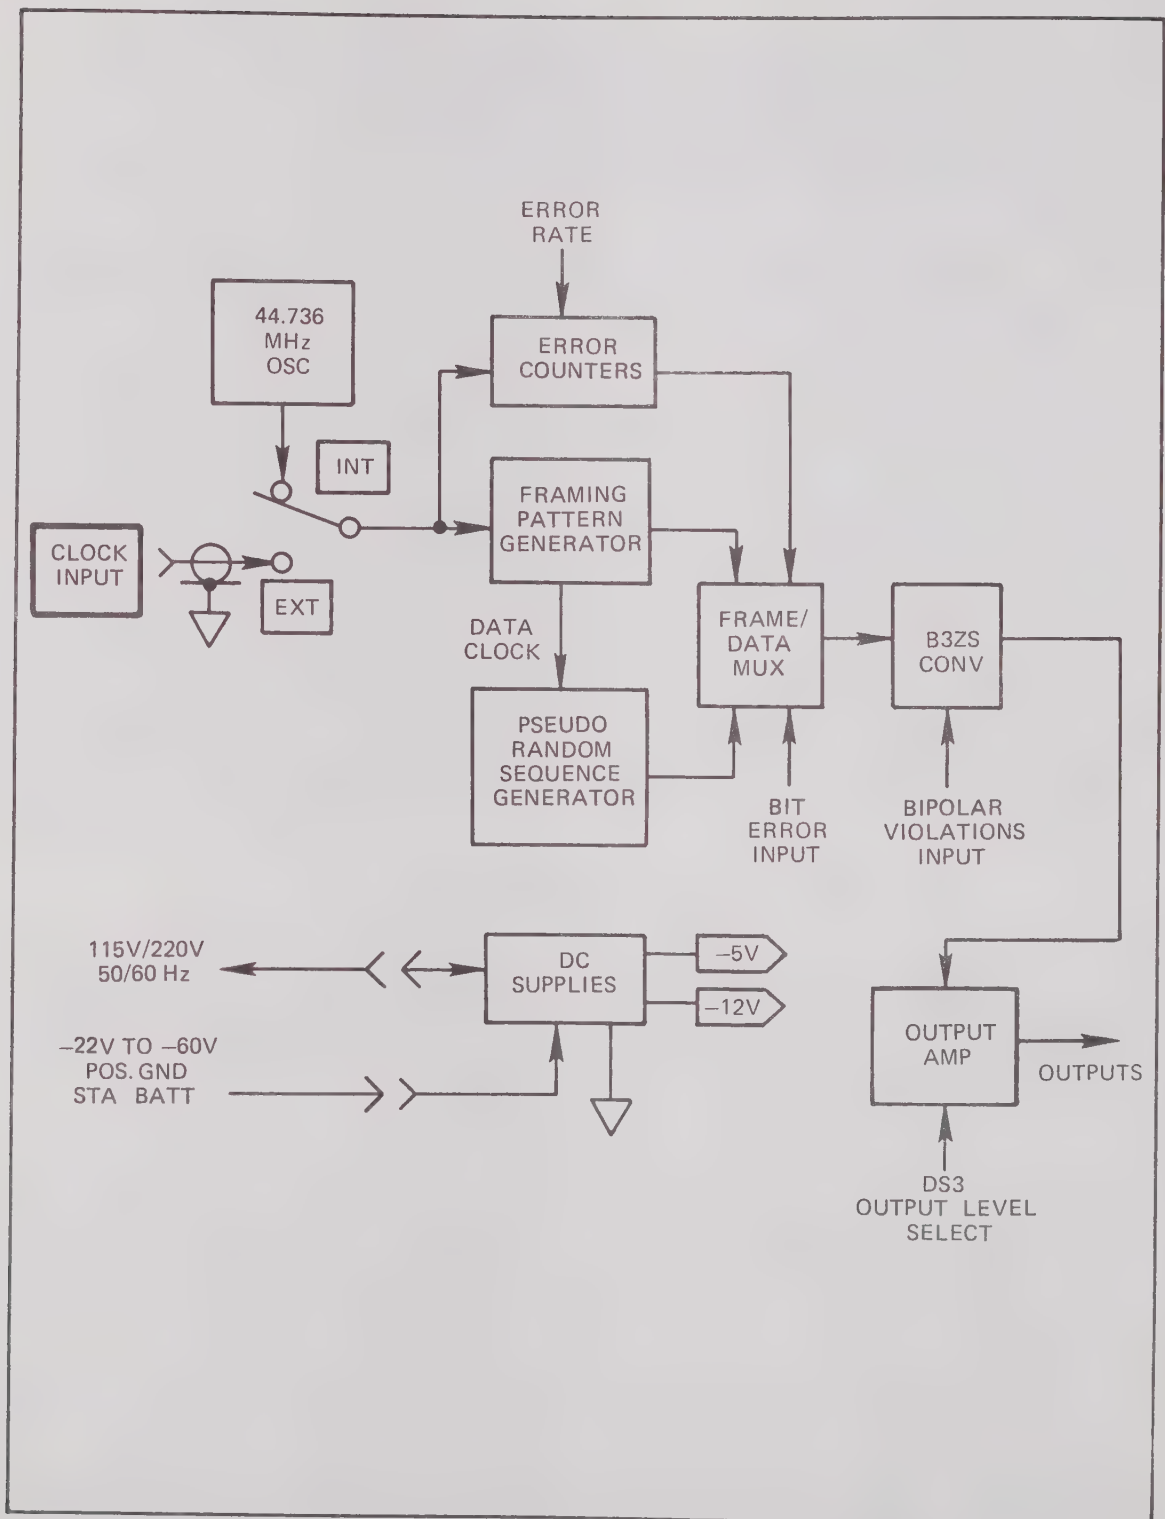

Figure 4.5. Model 4651A Transmitter, Block Diagram
The Rear Panel, the Power Wiring Harness, and the -5.2/-12.0V DC Power Supply PCB Assembly have already been described in Section 4.2. The following paragraphs provide information for the remaining assemblies. The Output Amplifier assembly contains: (1) analog amplifiers for all front panel outputs, (2) a cable simulator for the DSX-3 OUTPUT LEVEL, and (3) the crystal reference oscillator. The Transmitter Logic assembly provides the logic circuits required to: (1) generate framing and data bit patterns as selected, (2) calculate and insert parity bits (when framing is selected), (3) introduce errors as set by switches, and (4) perform the B3ZS substitution. The Front Panel assembly interfaces the above circuits with the front panel control switches and indicators, and provides the necessary logic to select the transmitter operating modes. Figure 4.5 is a block diagram of a Model 4651A BERTS Transmitter showing the interconnections of circuit functions.